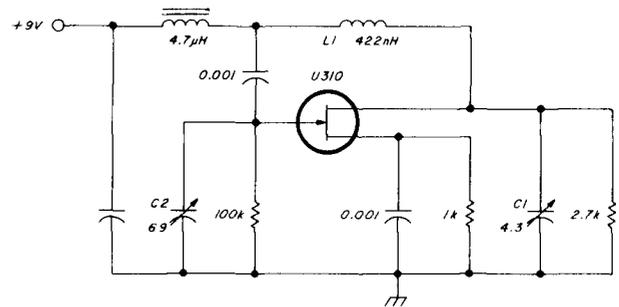

fig. 5. A common-source Colpitts oscillator designed using the procedure described in the text.
This design example will use the common-source oscillator shown in **fig. 4**. Earlier calculations for the common-gate oscillator determined the R_L to be 2700 ohms, which will also be used in the common-source example in addition to an f_o of 100 MHz. A Q_L of 10 has been selected since it yields practical component values. Referring to **fig. 5**,
After all the calculations were performed, the circuit in fig. 5 was constructed and tested. The value of C2 required to start oscillations was found to be 45 pF instead of the calculated value of 69 pF. The feedback network consisting of L1 and the dc blocking
For those cases when a more accurate result is necessary, the following procedure may be used. Use those component values determined in the design for **fig. 5** as a starting point and proceed with the following steps.
5. Design the circuit using the technique described for fig. 5.